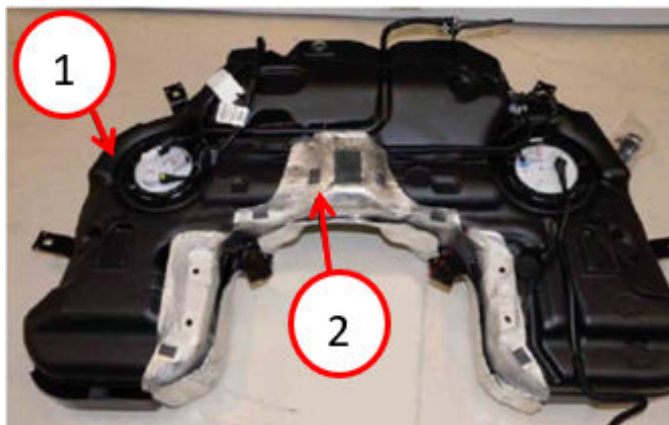

Fig. 3
9. Position the upper heat shield on fuel tank Fig. 3.